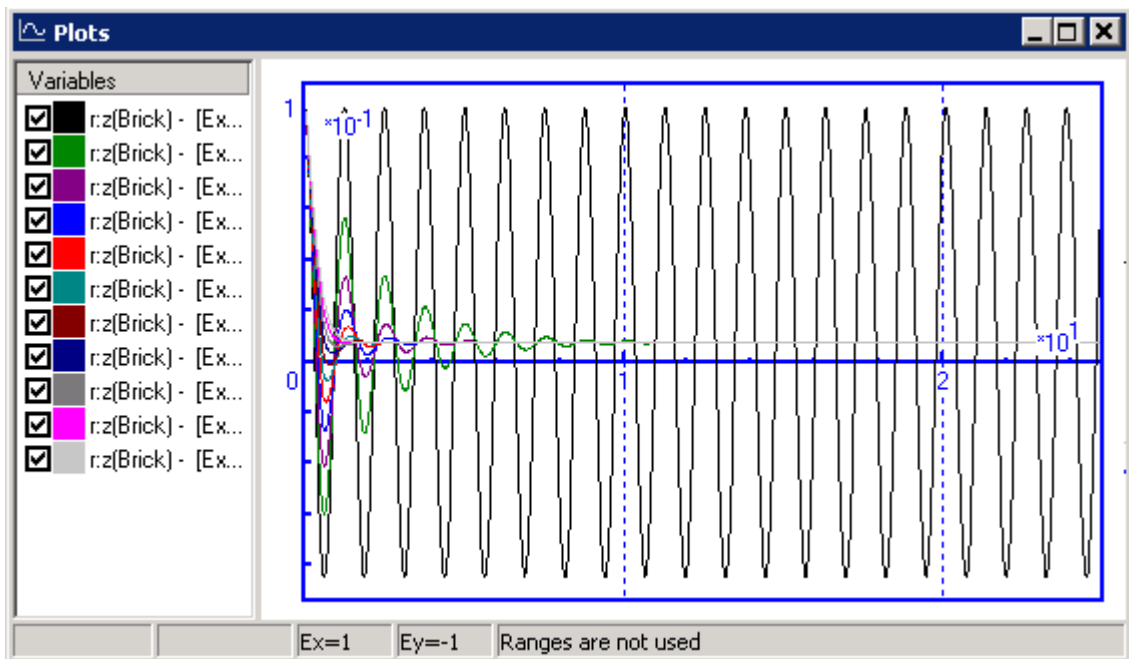

Figure 2.16. Vertical oscillation of the **Brick** at various damping coefficient
- In the list of variables (the **Position** tab) select the **r:z(Brick)** variables and drag it to the graphical window. Plots of vertical position of the **Brick** are shown in the graphical window, see Fig. 2.16.